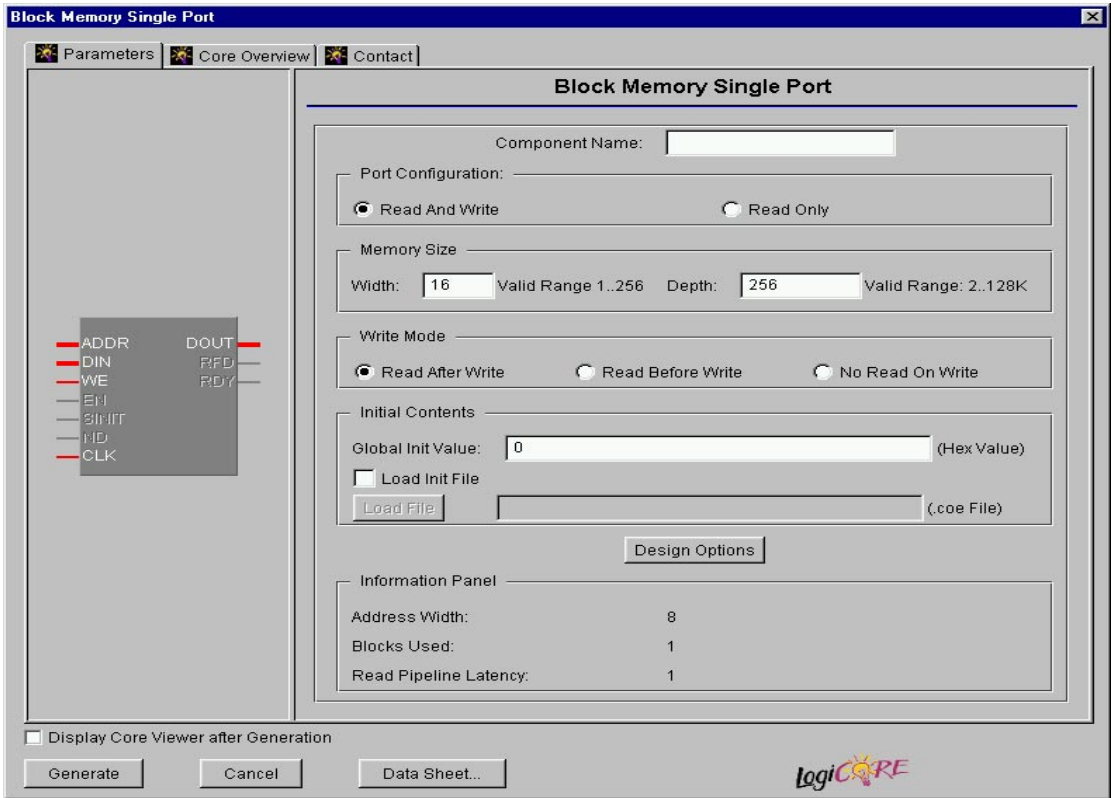
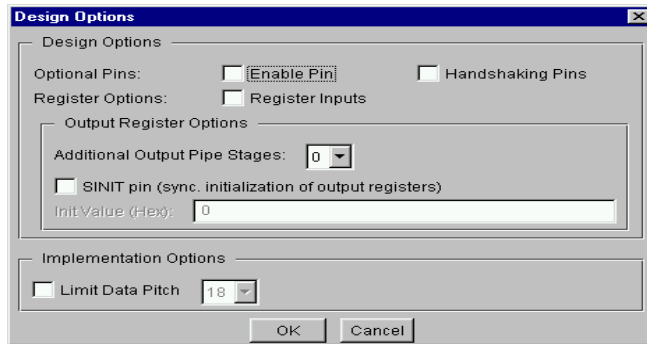

Figure 2: Single-Port Block Memory Main Parameterization Window
Figure 3: Single-Port Design Options Window
The CORE Generator parameterization window for this module is shown in Figure 2 and Figure 3. The window shown in Figure 2 allows the memory ports to be defined. An information window, which is useful in verifying that the total number of blocks required does not exceed those available on the targeted device, is also shown at the bottom. The window shown in Figure 3 allows configuration of the design options. The available options are described below.
- (1) No Inputs or Outputs Registered: The current data in the addressed memory location is transferred
- (2) With Inputs Registered: The current data in the addressed memory location is transferred onto the DOUT port on the second rising clock edge immediately following the assertion of the WE input.
- (3) With Outputs Registered: The current data in the addressed memory location is transferred onto the DOUT port on the second rising clock edge immediately following the assertion of the WE input.
- (4) With Inputs and Outputs Registered: The current data in the addressed memory location is transferred onto the DOUT port on the third rising clock edge immediately following the assertion of the WE input.
- **Design Option:** Press this button to display the design options dialogue box on the screen. The resulting display is shown in Figure 3.